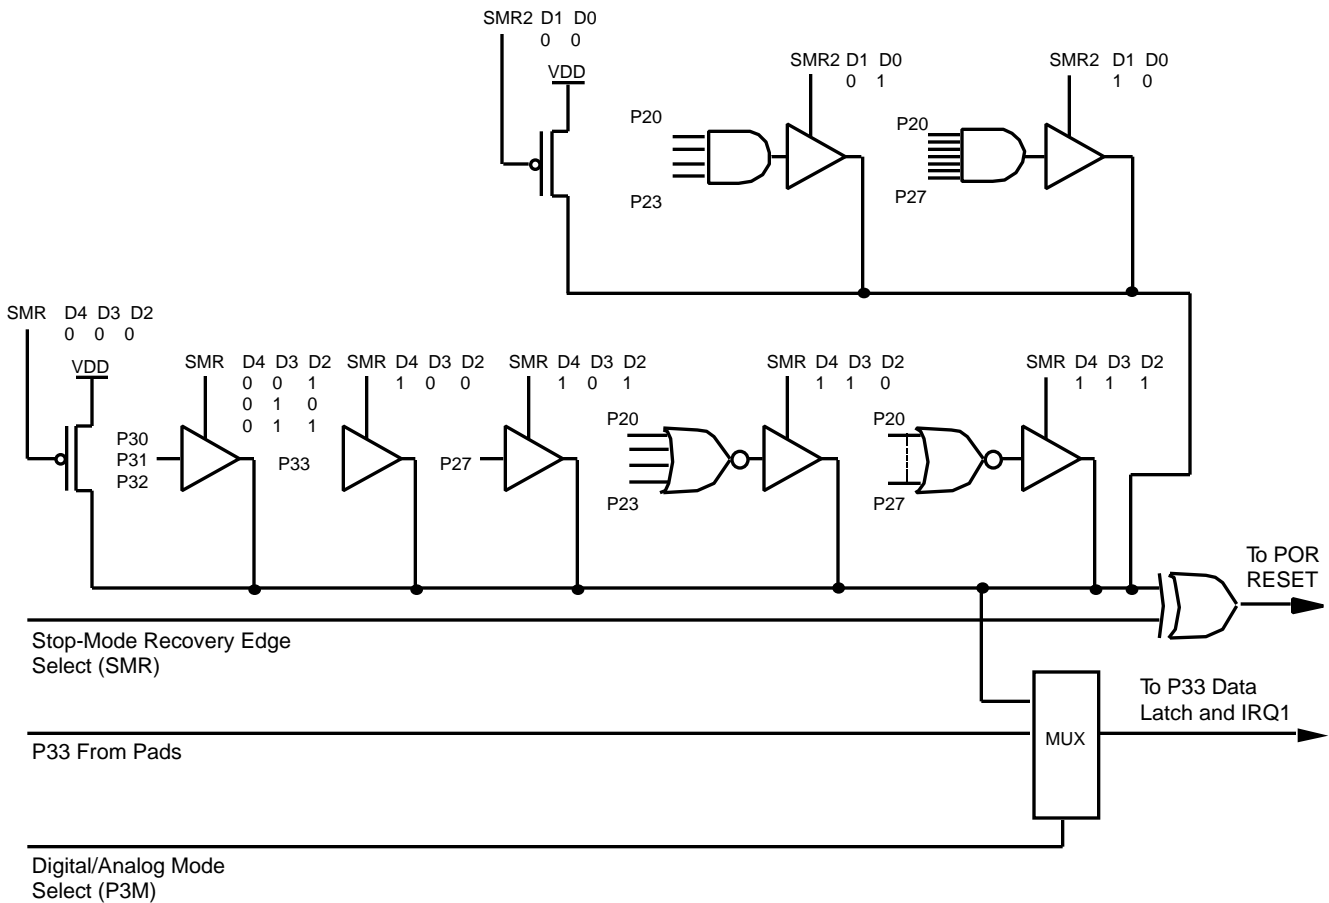

Figure 32. Stop-Mode Recovery Source
**STOP-Mode Recovery Source (D2, D3, and D4).** These three bits of the SMR register specify the wake up source of the STOP-Mode Recovery (Figure 32). Table 12 shows the SMR source selected with the setting of D2 to D4. P33-P31 cannot be used to wake up from STOP mode when programmed as analog inputs. When the STOP-Mode Recovery sources are selected in this register then SMR2 register bits D0, D1 must be set to zero.